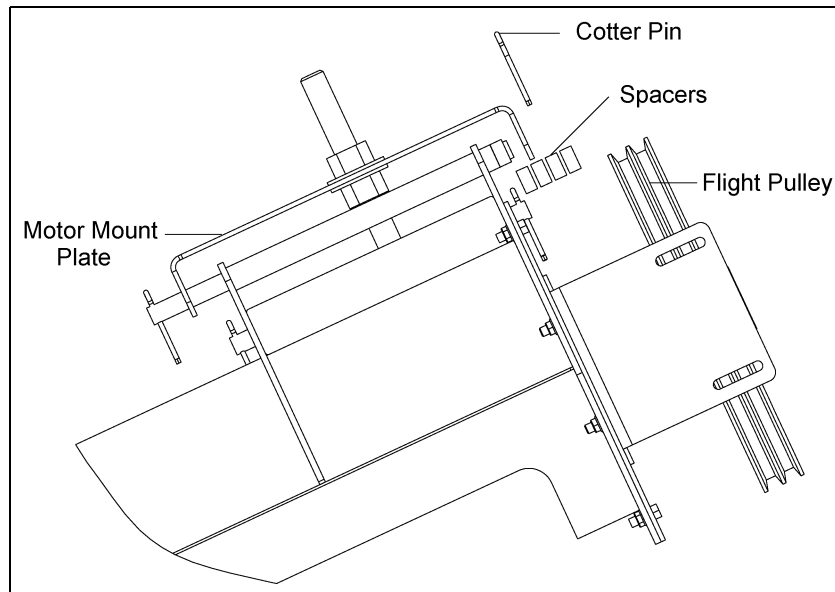

Figure 4P
- B. Install pulley onto motor shaft making sure that it is aligned with the flight pulley. It may be necessary to move spacers to gain shaft alignment. *(See Figure 4P)*